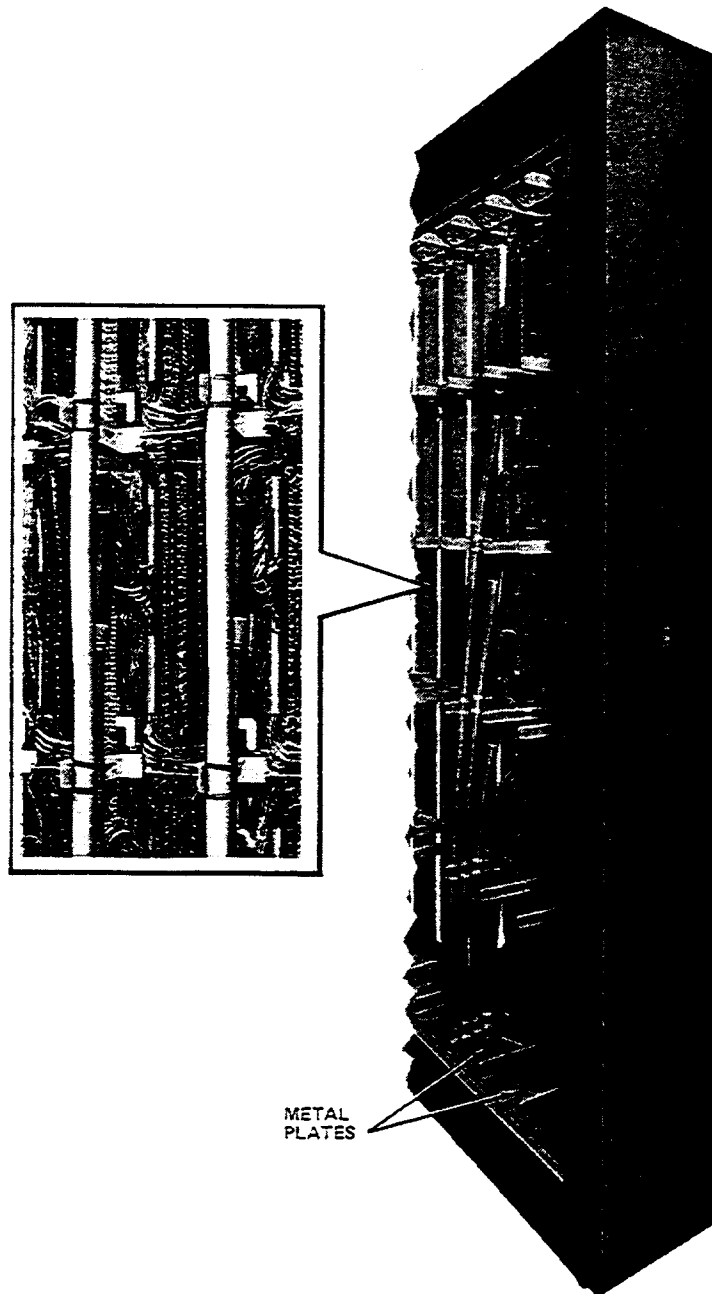

Figure 3—Position of Bottom-Mounted Stub Cables on Modular Type Protector Frame
- (5) From the protector unit side of the connector, secure the connector to the frame by using the screws furnished with the connector.
- (6) Position and secure the stub cable to the horns of the protector frame as shown in Figure 3.
- (7) Connect the bond wire to the same cable horn that is immediately above the aluminum covered moisture plug by using the self-tapping screw furnished with the connector. This provides electrical ground continuity between the shield of the stub cable and the MPF ground.
- (8) Cut the metal plates (Figure 3) to fit around the stub cables in accordance with local instructions and/or fire protection practices. Secure the metal plates to the protector frame using the screws removed in (1).